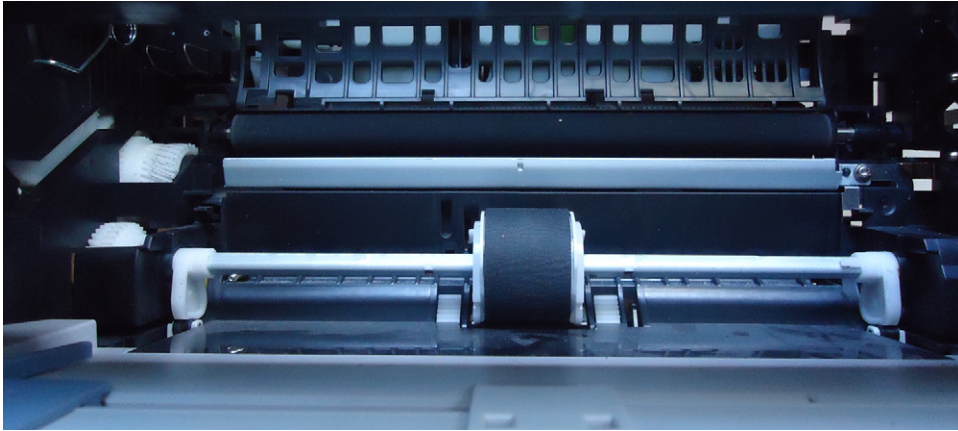

FIGURE 7-2 Pickup roller in an empty paper tray.
- **Isopropyl alcohol.** Many of the rollers within a printer will get dirty, and isopropyl alcohol is an ideal choice to clean them. For example, Figure 7-2 shows the pickup roller in a laser printer used to pick up paper from a paper tray. When the pickup roller gets dirty, it can have problems picking up the paper. A benefit of isopropyl alcohol is that it evaporates quickly and doesn't leave any residue. You apply it to a cotton swab or lint-free cloth and then clean the roller.